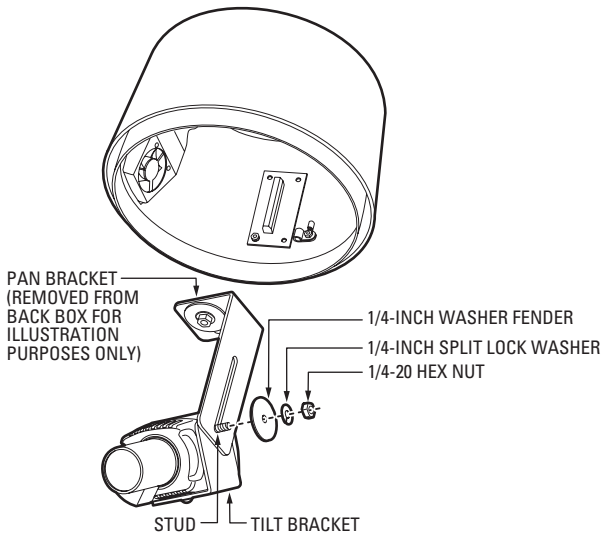

Figure 18. Removing Tilt Bracket from DF5/DF8 Pendant Dome
7. Using a 7/16-inch wrench, remove the tilt bracket and attached camera from the back box. To do so, loosen the nut on the stud of the tilt bracket and, while holding the camera securely, remove the nut and associated flat washer and lock washer from the stud (refer to Figure 18).
NOTE: In Figure 18, the pan bracket is removed from the back box for illustration purposes only. You do not need to remove the pan bracket from the back box.